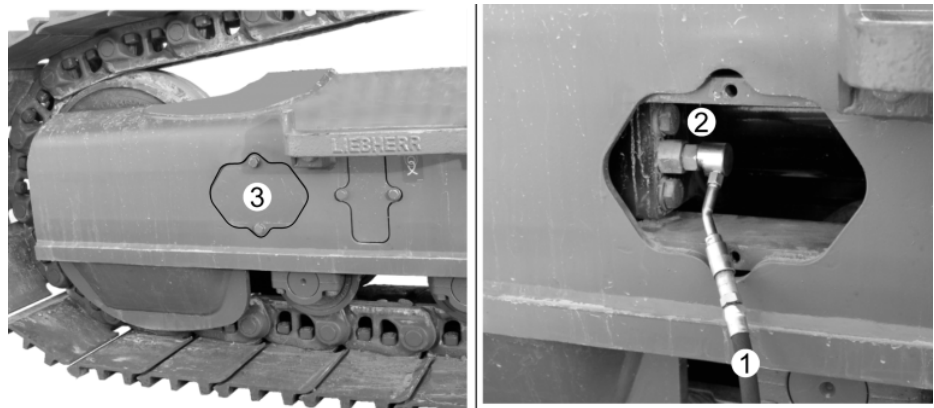

Fig. 5-44 Retensioning the crawler
- ▶ Carefully unscrew lubricating nipple **2** (siehe Fig. 5-44) by several thread pitches until the grease oozes out of the nipple's annular groove.